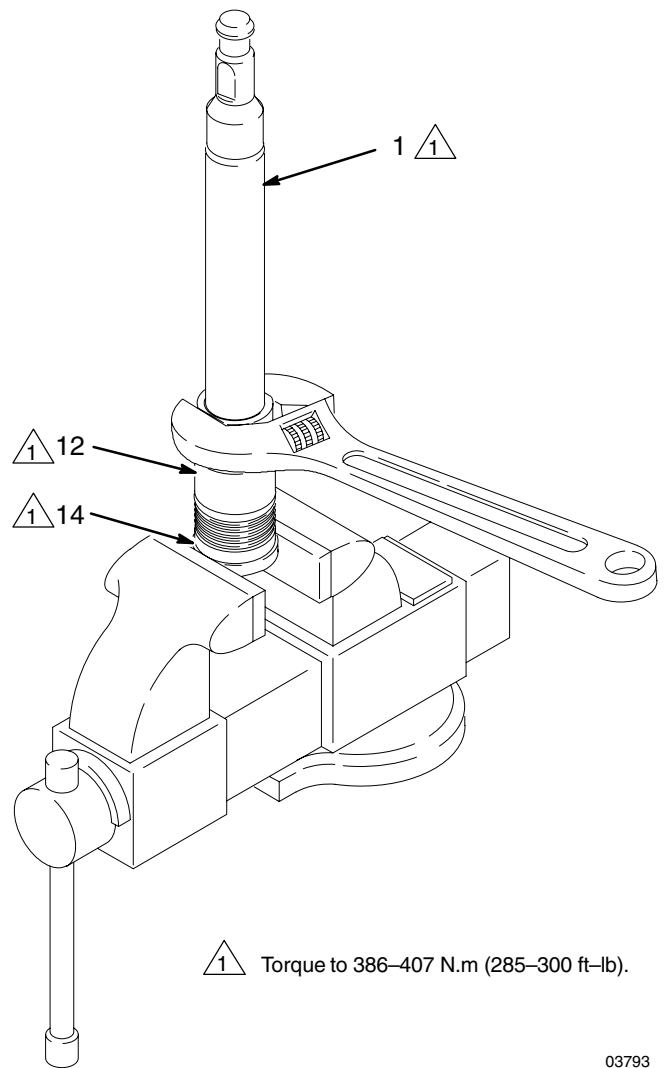

Fig. 7
7. Shine a light into the cylinder (11) to inspect the inner surface for scoring or wear. Remove the o-rings (10) from the cylinder.
8. Place the flats of the piston seat housing (14) in a vise, as shown in Fig. 7. Using an adjustable wrench, unscrew the piston ball housing (12) from the piston seat housing. Be careful to catch the piston ball (13) as you separate the piston seat housing and ball housing, so that it doesn't fall and suffer damage.
3. Place the flats of the piston seat housing (14) in a vise. Place the ball (13*) on the piston seat (E). Screw the piston ball housing (12) onto the piston seat housing hand tight, then torque to 386–407 N.m (285–300 ft–lb). See Fig. 7.